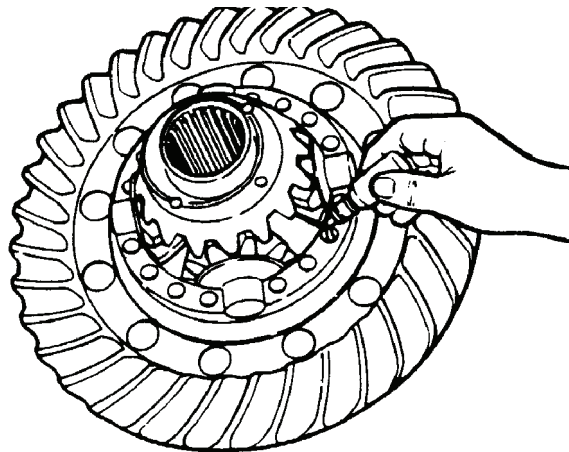

Figure 66.
- (1) If Dri-Loc fasteners or Liquid Adhesive application are to be used, remove existing fasteners from case halves and apply adhesives using instructions on containers.
- (2) Wipe excess oil residue from fasteners and threaded holes. The fasteners and holes should be relatively oil free, however, no special cleaning is required. When reusing Dri-Loc fasteners, it is not necessary to remove Dri-Loc residue from threads.
- (3) Apply Liquid Adhesive to threaded holes only, by letting four or five drops run down the side of each hole. Before threading in fasteners, visually check to make sure that adhesive has contacted the threads. Refer to Figure 66.